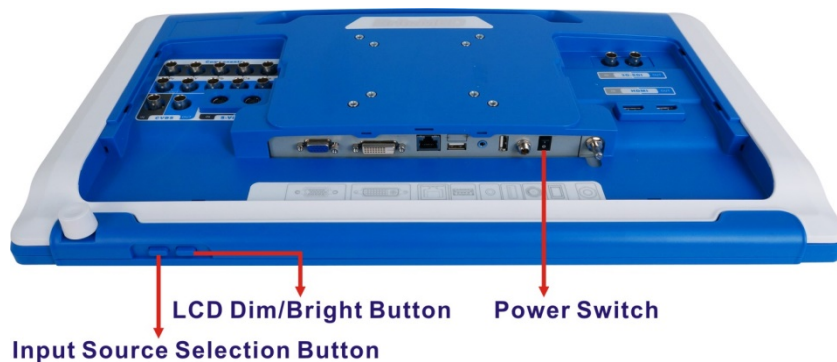

Figure 3-4: Buttons and Switch
Step 2: Press the power switch (**Figure 3-4**) to power on or off the monitor.
Step 3: The user may toggle the input source selection button to select the signal input source, and the LCD dim/bright button to dim the LCD (**Figure 3-4**).